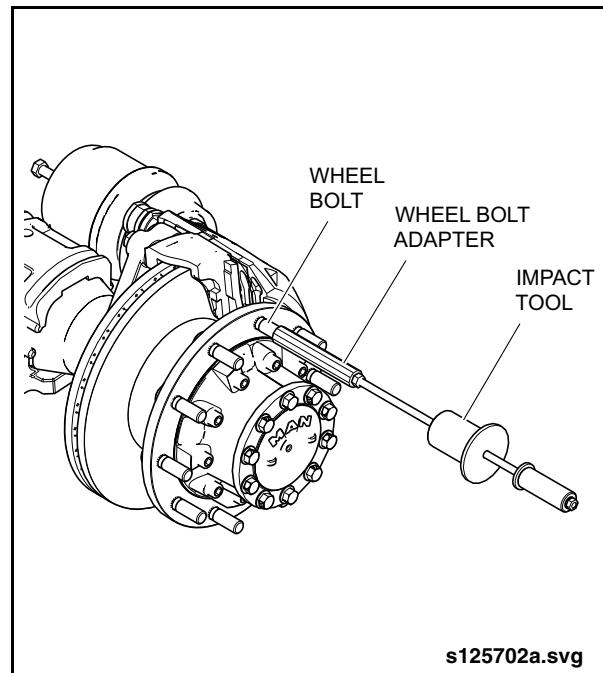

Fig. 2-7: Wheel Bolt Installation
1. Insert a new wheel bolt with the truncated end facing the wheel hub. See “Fig. 2-7: Wheel Bolt Installation” on page 11.